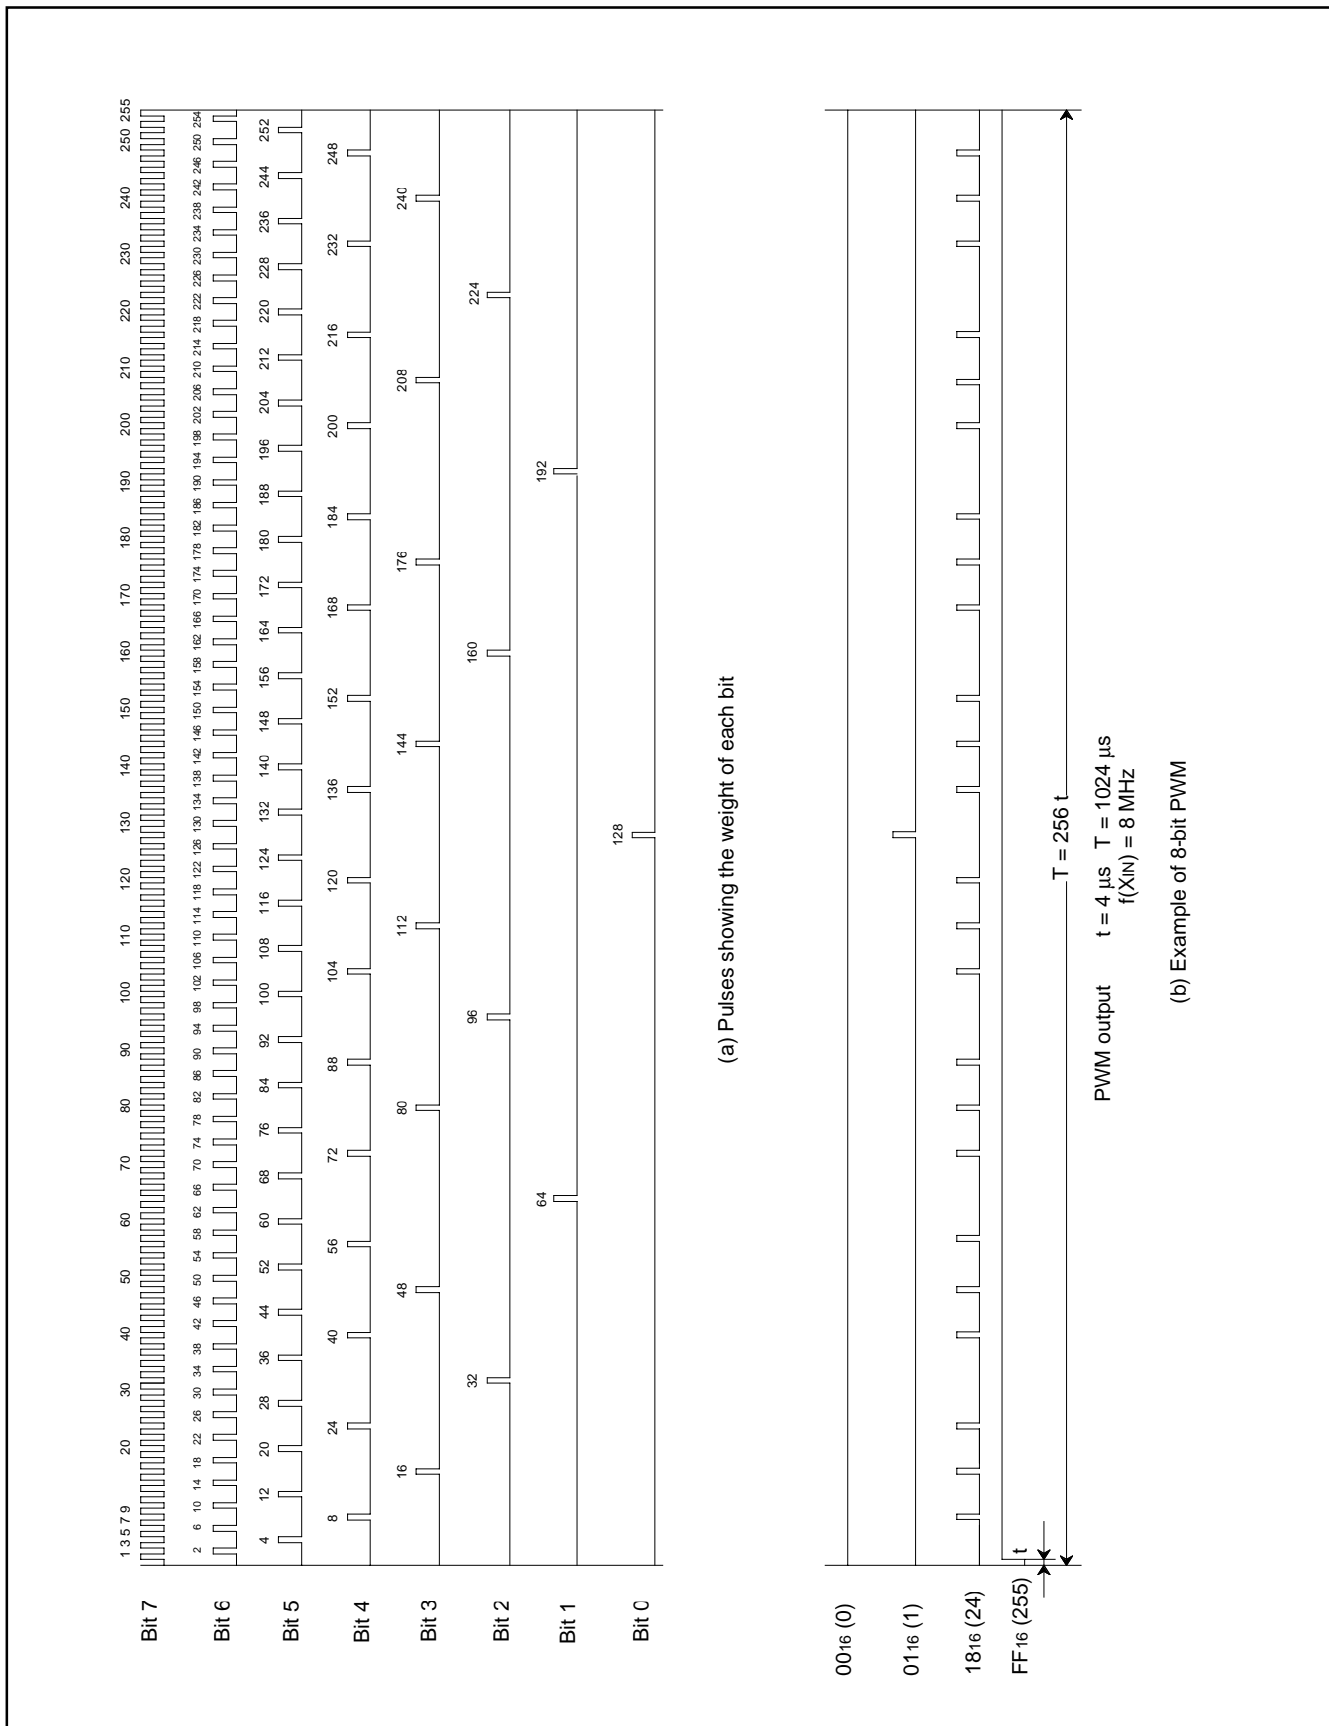

Fig. 8.7.2 PWM Timing
Figure 8.7.2 shows the 8-bit PWM timing. One cycle (T) is composed of 256 ( $2^8$ ) segments. The 8 kinds of pulses, relative to the weight of each bit (bits 0 to 7), are output inside the circuit during 1 cycle. Refer to Figure 8.7.2 (a). The 8-bit PWM outputs waveform which is the logical sum (OR) of pulses corresponding to the contents of bits 0 to 7 of the 8-bit PWM register. Several examples are shown in Figure 8.7.2 (b). 256 kinds of output (HIGH area: 0/256 to 255/256) are selected by changing the contents of the PWM register. A length of entirely HIGH output cannot be output, i.e. 256/256.